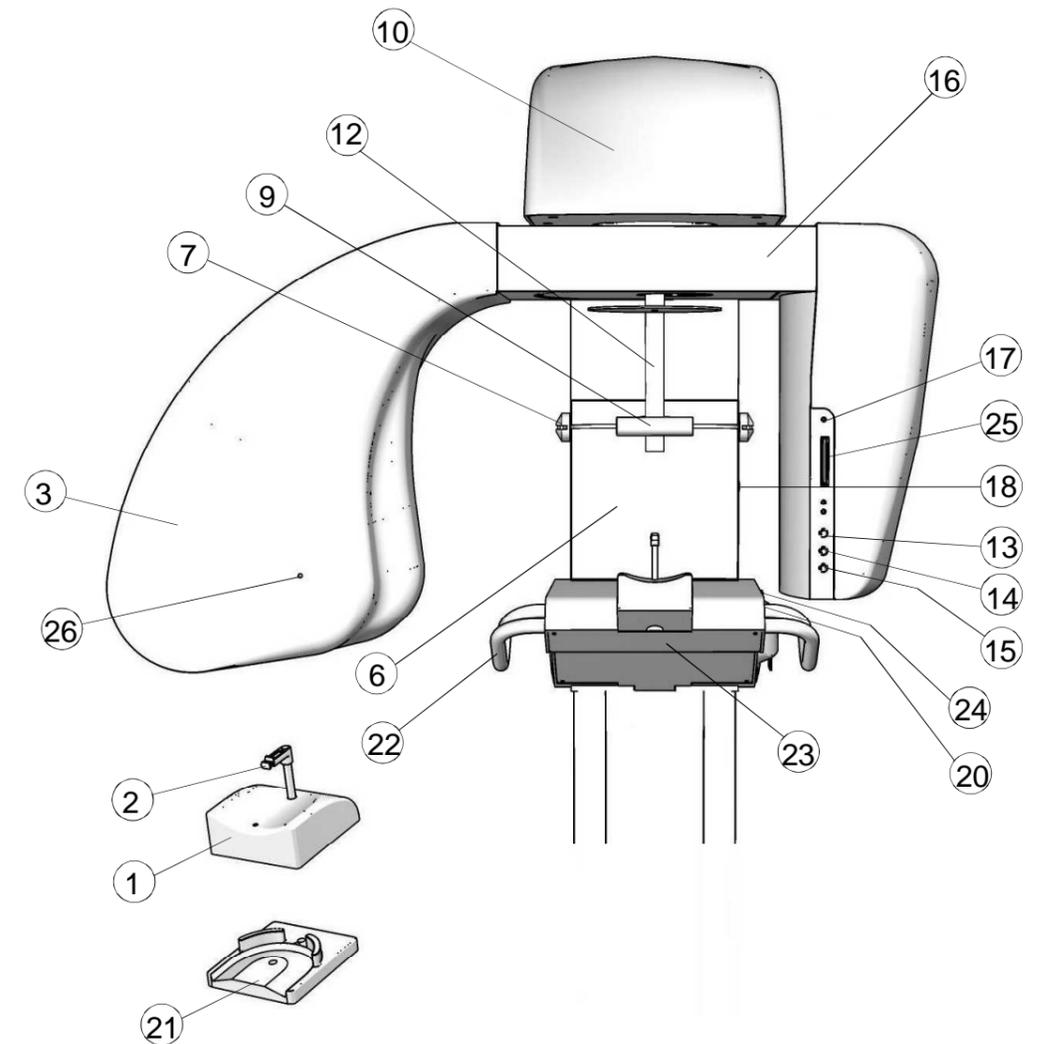
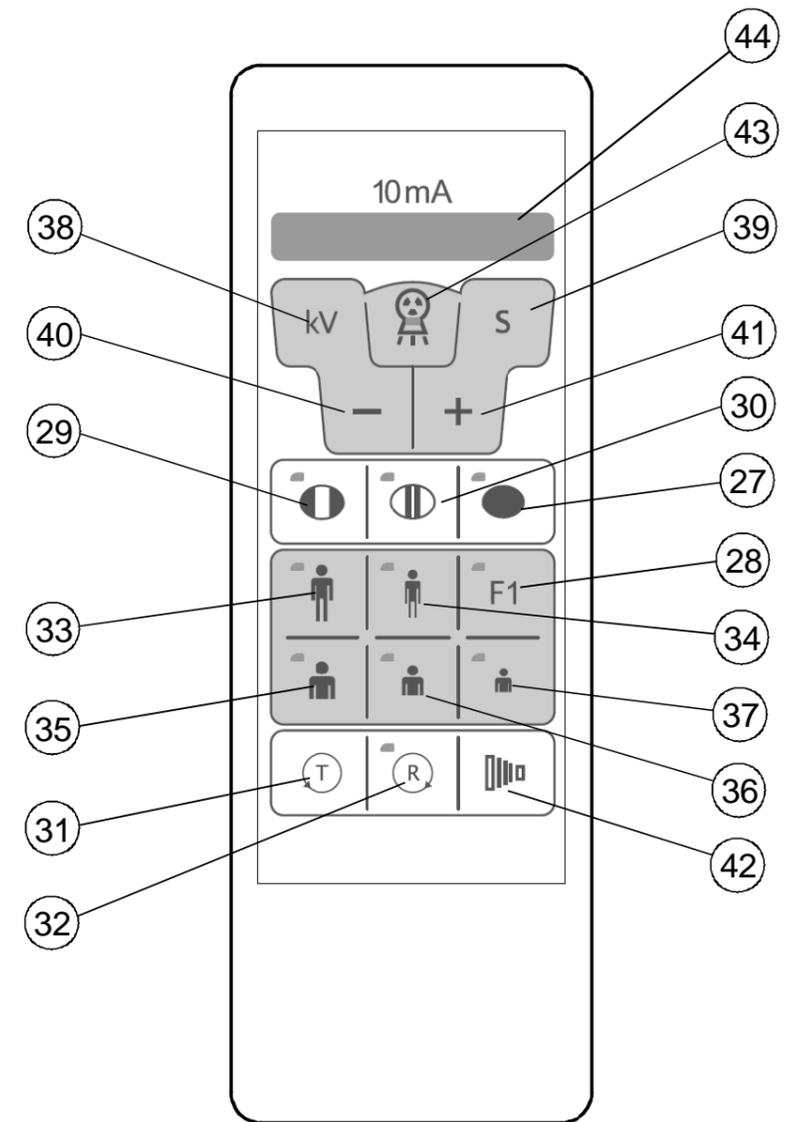

Figure 7: Stand
Figure 8: Remote control
6.3.2.3 Performing the exposure (refer to Figure 8)
The equipment setting is like the one described for panoramic examination at point 6.2.1 as the only difference between the Panoramic Exposure and the Sinus one is due to the different chin support used: the chin support to be used in the Sinus examination is as follows (numbers refer to Figure 7 at the end of this manual):
6.5 Messages on display (refer to Figure 7 and Figure 8)
Verify the X-rays emission by checking light and acoustic signal (light 43 Figure 8), If the defect persists call for **Technical Assistance**.